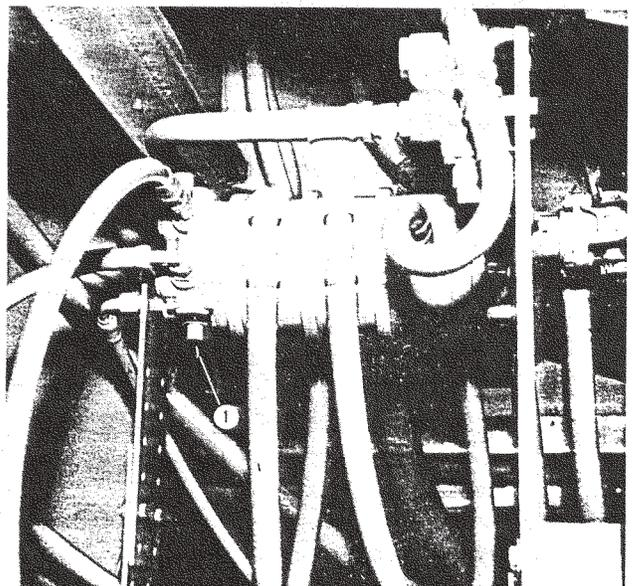

Figure 21
3. Power steering relief valve adjustment (Figure 21). This relief valve should be checked while engine is running at a slow idle (throttle closed).
B. Remove acorn nut on underside of pump forward section (Figure 21).